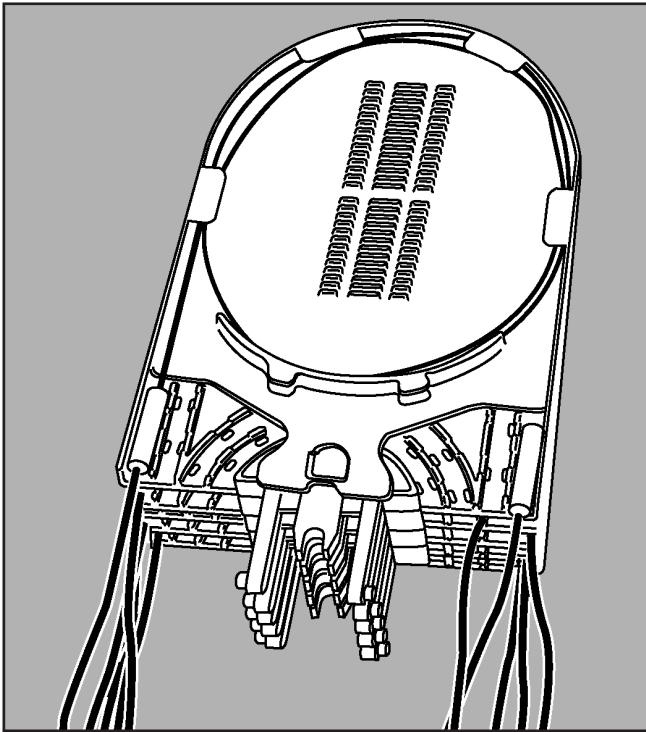

Figure 13
13. Prepare all “express” and “drop” loose buffer tubes and fibers to be spliced into additional SLIDE-N-LOCK splice trays following steps 3 through 12. (Figure 13)